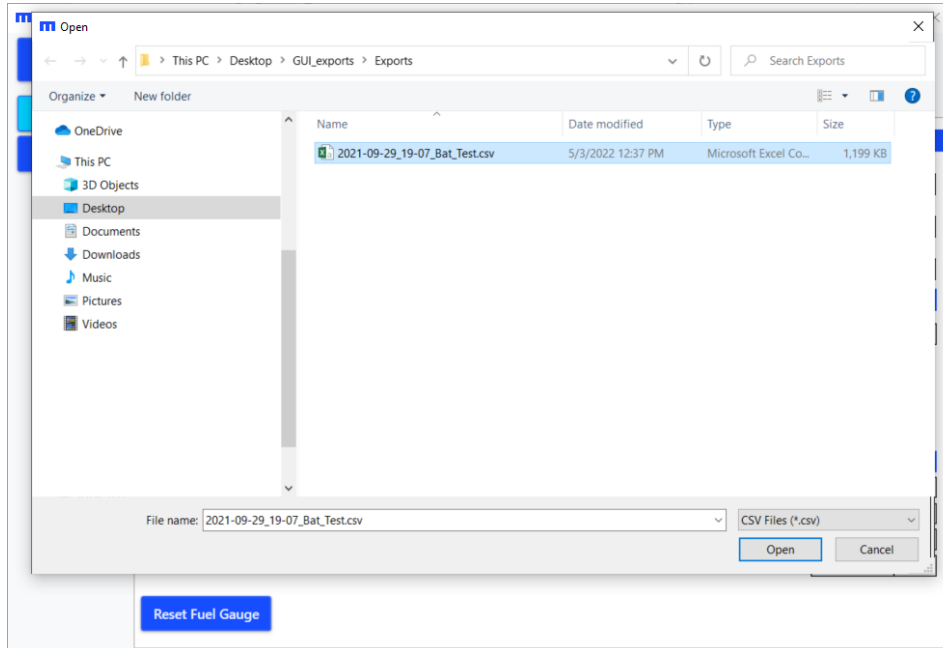

Figure 61: Virtual Fuel Gauge Select Input File
3. Select the recorded “.csv” file to rerun using the explore button (see Figure 61).